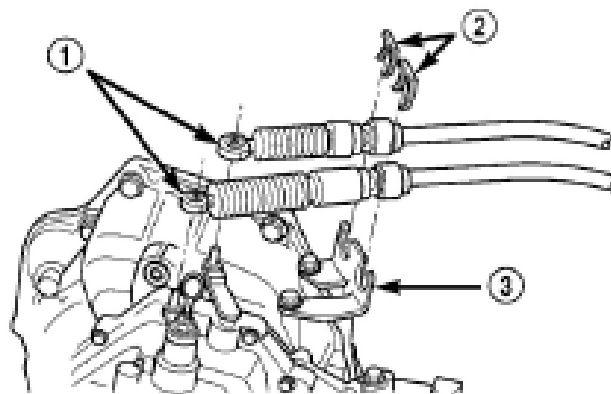

Figure 3-26 Shifting cable on transaxle
(4) Remove the batter carrier out of the support.
(5) Remove the ground cable on the batter support.
(6) Remove the backup light switch joint.
(7) Plug out ting cable and support clip (Figure 3-26).
(8) Disassemble shifting cable from the lever (Figure 3-26) and put it aside.